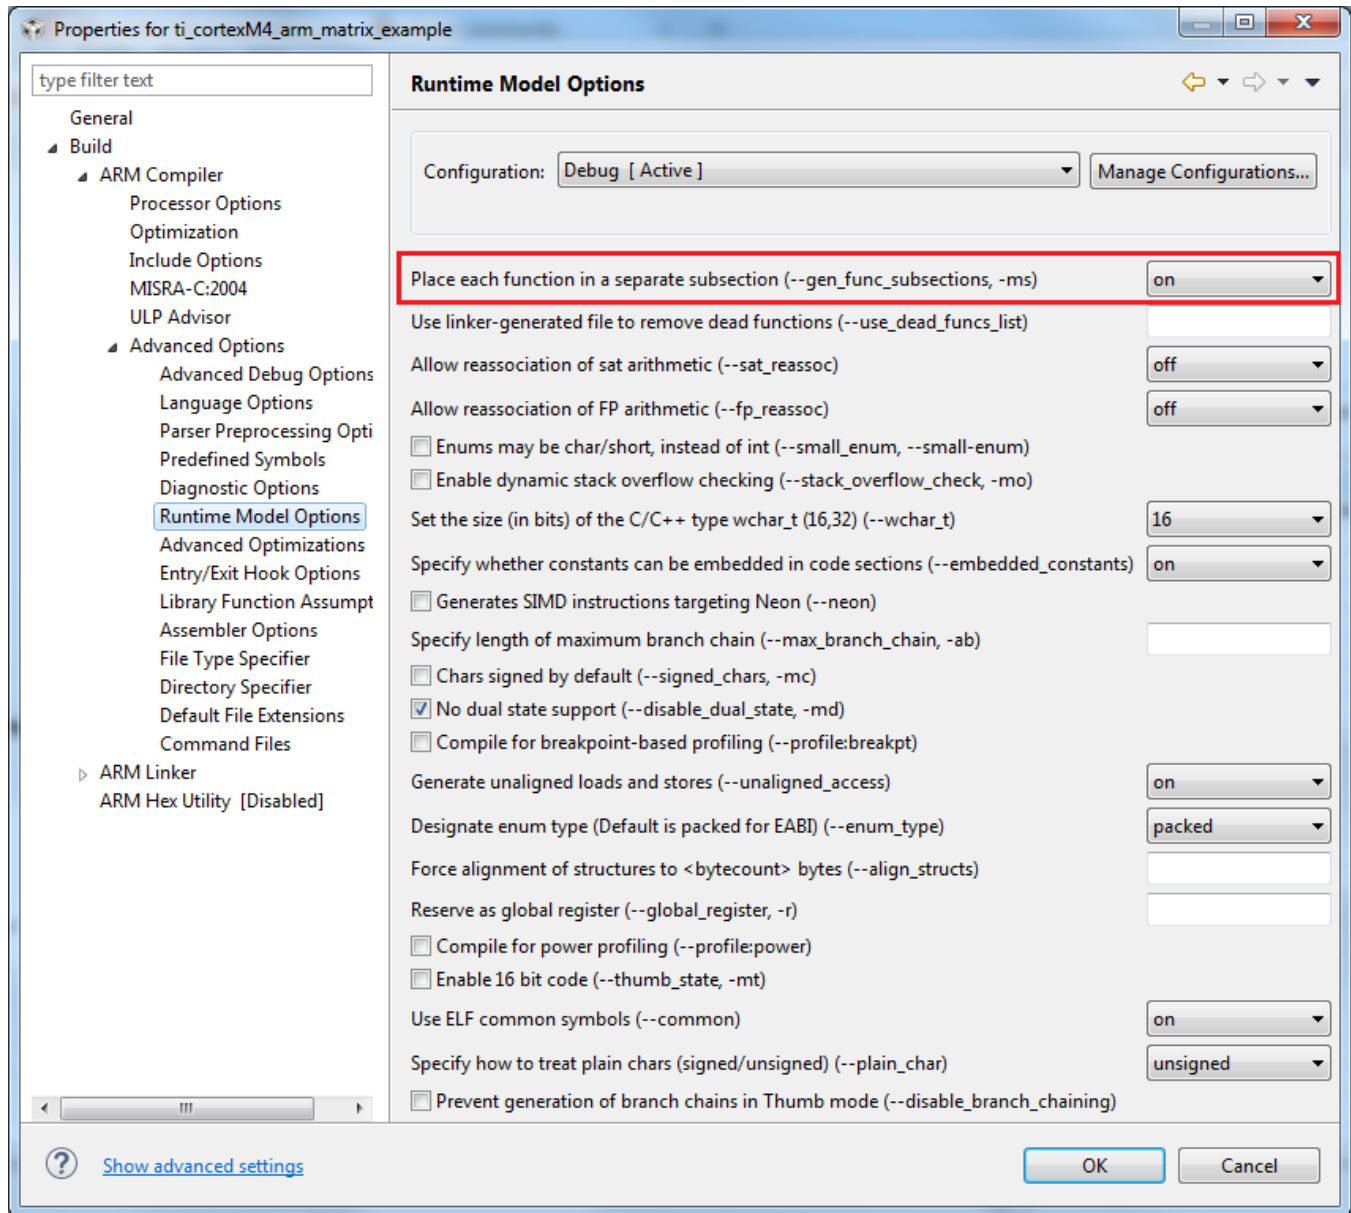

Figure 23. The Runtime Model Options Set Up for Compiling the Example Projects
10. Select the *on* option from the *Place each function in a separate subsection* (`--gen_func_subsections, -ms`) drop-down menu (see Figure 23), in the Runtime Model Options panel.